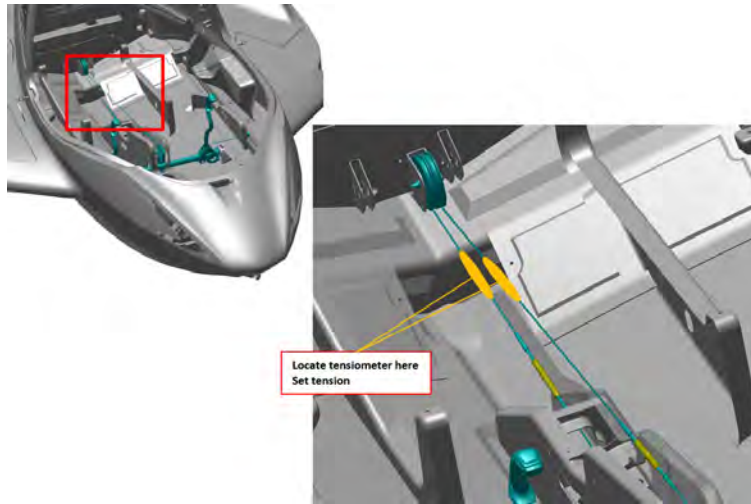

FIGURE 10-34
10. Use a tensiometer at least 8 in away from turnbuckles to rig both the upper pitch control cable and lower pitch control cable (cable thickness = 1/8 in). Adjust turnbuckles as required to set cable tension to 20 – 35 lbs. Refer to Figure 10-34. Operate tensiometer per its manufacturer's instructions.